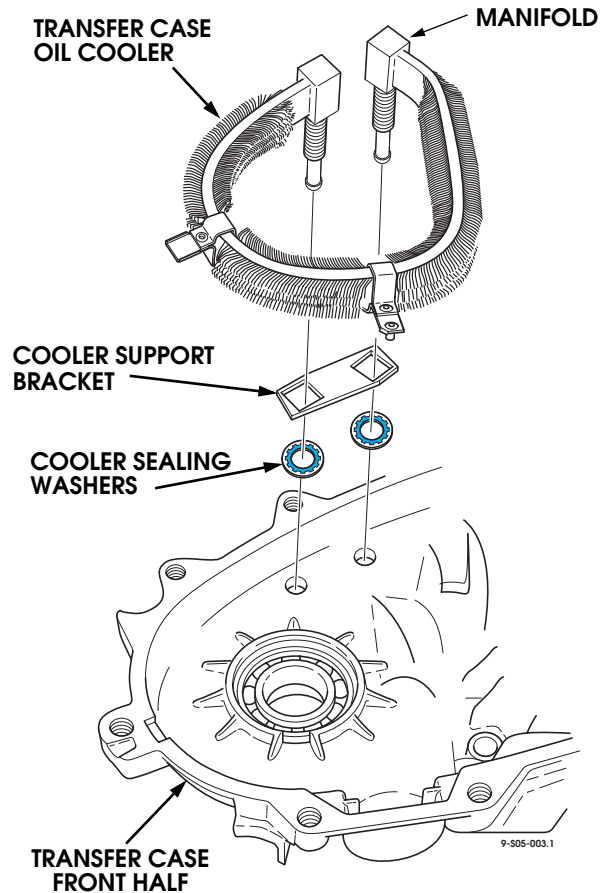

Figure 5-150: Transfer Case Cooler Support Bracket Installation
22. Install support bracket onto oil cooler, then install sealing washers, set oil cooler into the transfer case front half and install external hardware. Hand tighten only. (Figure 5-150)